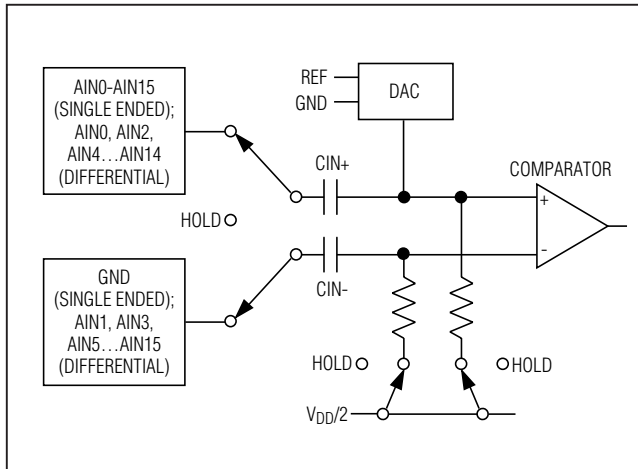

Figure 3. Equivalent Input Circuit
**Note 6:** See Figure 3 (Input Equivalent Circuit) and the *Sampling Error vs. Source Impedance* curve in the *Typical Operating Characteristics* section.
The MAX1026/MAX1028/MAX1030 use a fully differential ADC for all conversions. The analog inputs can be configured for either differential or single-ended conversions by writing to the setup register (see Table 3). Single-ended conversions are internally referenced to GND (see Figure 3).
The equivalent circuit of Figure 3 shows the MAX1026/MAX1028/MAX1030s' input architecture. In track mode, a positive input capacitor is connected to AIN0-AIN15 in single-ended mode (and AIN0, AIN2, AIN4...AIN14 in differential mode). A negative input capacitor is connected to GND in single-ended mode (or AIN1, AIN3, AIN5...AIN15 in differential mode). For external track-and-hold timing, use clock mode 01. After the T/H enters hold mode, the difference between the sampled positive and negative input voltages is converted. The time required for the T/H to acquire an input signal is determined by how quickly its input capacitance is charged. If the input signal's source impedance is high, the required acquisition time lengthens. The acquisition time,  $t_{ACQ}$ , is the maximum time